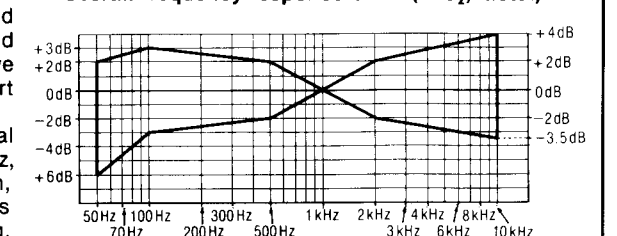

Fig. 15
8. Change test tape to CrO₂ reference blank test tape (QZZCRX), and record 1kHz, 50Hz, 100Hz, 200Hz, 500Hz, 4kHz, 8kHz, 10kHz and 15kHz signals. Then, playback the signals and check if the curve is within the limits shown in the overall frequency response chart for CrO₂ tapes (fig. 15).
9. Place UNIT into metal tape mode and change test tape to metal reference blank test tape (QZZCRZ), and record 1kHz, 50Hz, 100Hz, 200Hz, 500Hz, 4kHz, 8kHz and 12.5kHz signals. Then, playback the signals and check if the curve is within the limits shown in the overall frequency response chart for metal tapes (fig. 15).